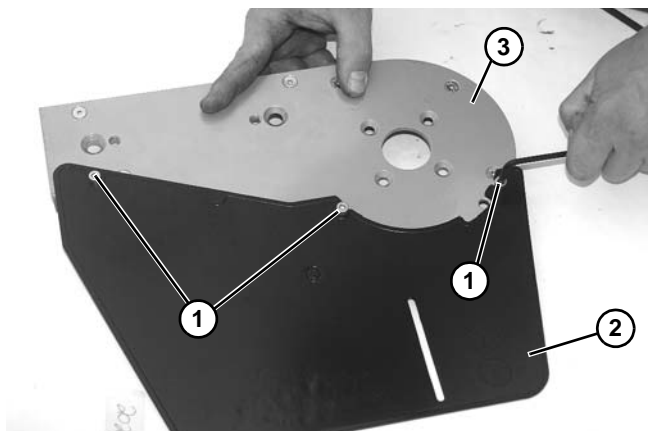

Figure 122
1. Remove three socket head screws (Figure 122, item 1) and remove drive plate guard (Figure 122, item 2) from drive plate (Figure 122, item 3).